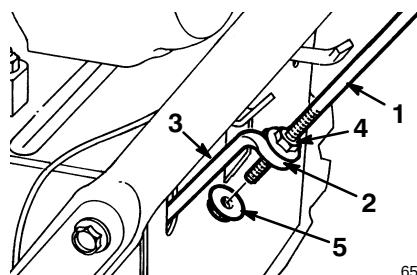

Figure 3
3. Thread a flange nut (not the locking flange nut) with the flange down onto the traction control rod attached to the left handle (Fig. 3)
4. Position the left handle against side of the snowthrower and insert the end of the traction rod through the loop in the lower traction rod (Fig. 3).
- Thread the locking flange nut (flange side up) onto the bottom of the traction control rod, below the loop in the lower traction rod (Fig. 3).